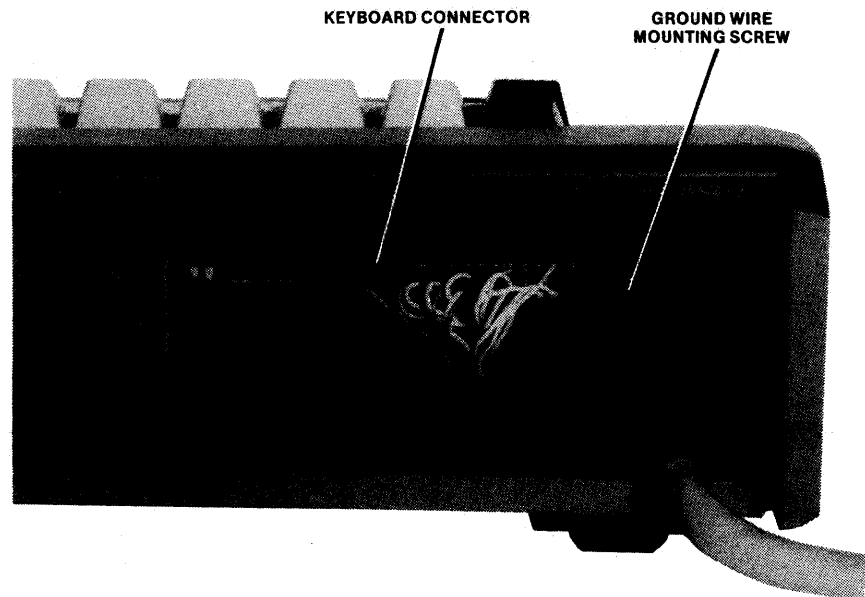

Figure 2-9. Keyboard Cable Internal Connection
- n. Refer to figure 2-9 and disconnect keyboard cable at point of connection to keyboard assembly, and then push it firmly back on to ensure proper seating. Make certain that ground wire is attached securely to mounting screw next to keyboard cable plug. If ground wire is loose, turn keyboard assembly over, remove the two recessed Phillips head screws, and remove keyboard overlay plate. Tighten ground wire screw and replace keyboard overlay plate.